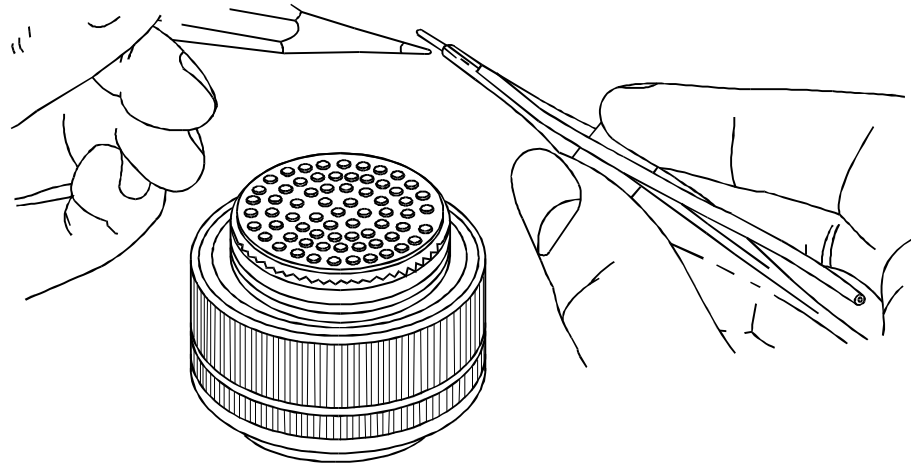

Figure 1-39
3. Lay the wire in the groove of the insertion tool. Slide the contact into the front of the tool until properly located and seated as shown in Figure 1-39.